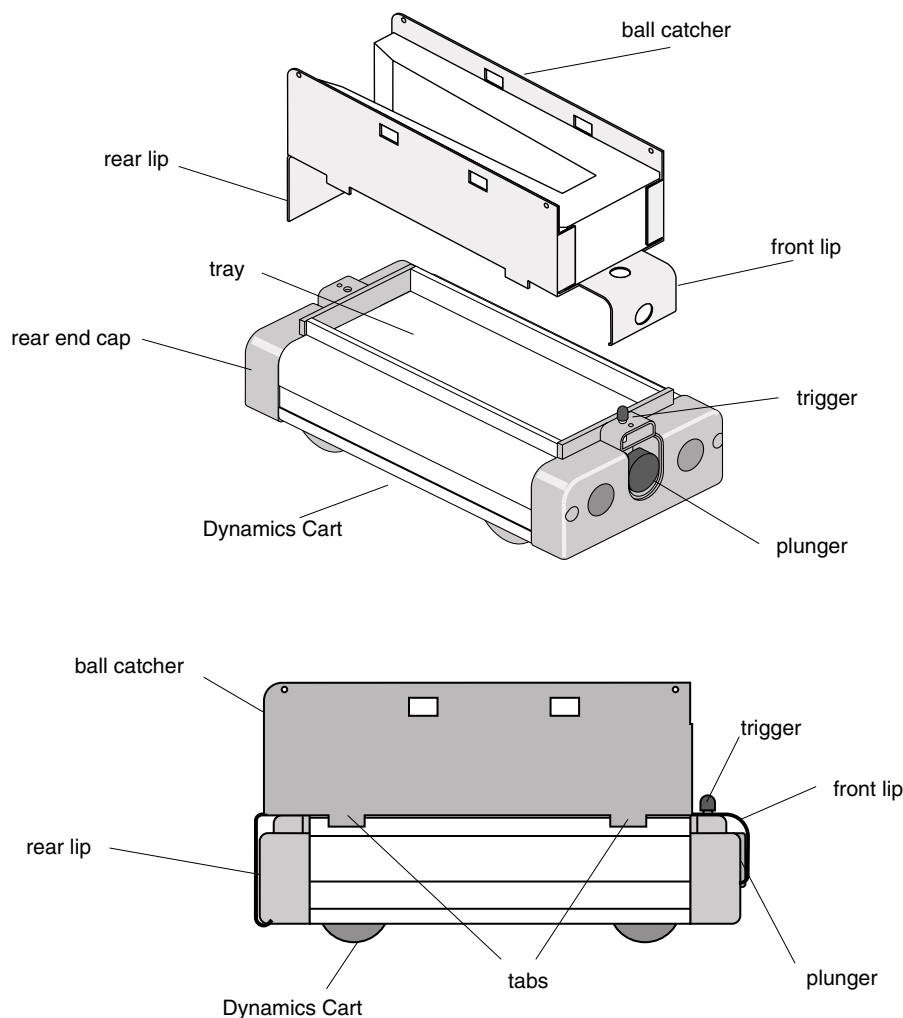

Figure 4: Mounting the Ball Catcher to the Dynamics Cart
1. Hook the rear lip of the ball catcher under the rear end cap of the Dynamics Cart. The spring plunger on the cart must be in the cocked position. (Note the orientation of the ball catcher. See Figure 4.)
3. Activate the Dynamics Cart's spring plunger trigger so the cart plunger catches the front lip of the ball catcher. See Figure 4.